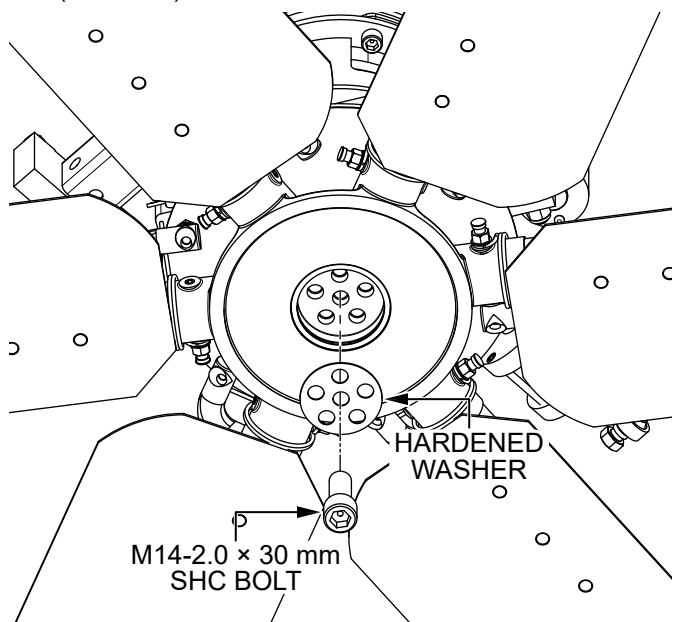

Figure 57. Install New Center Bolt And Washer
7. Install the new **M14-2.0 × 30 mm SHC bolt** *in the center position* along with a **new hardened washer** as shown in Figure 57. Torque the center bolt to 40 lbf·ft (54.2 N·m).